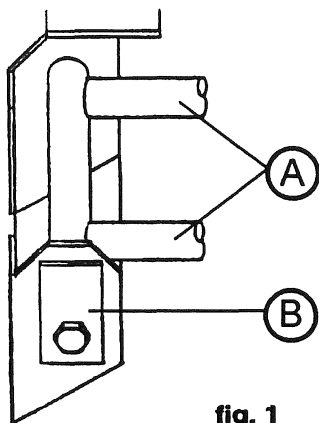

fig. 1
3. Insert pivot pin (item B, fig. 1, pg. 6) through the first hole on the pivot bracket, through the lower handle tube (item A, fig. 1, pg. 6), and into the other hole on the pivot bracket.